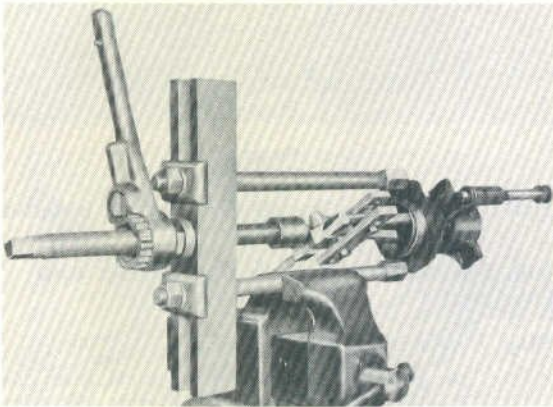

Fig. 15
- Remove the front bearing race as shown in Figure 15.